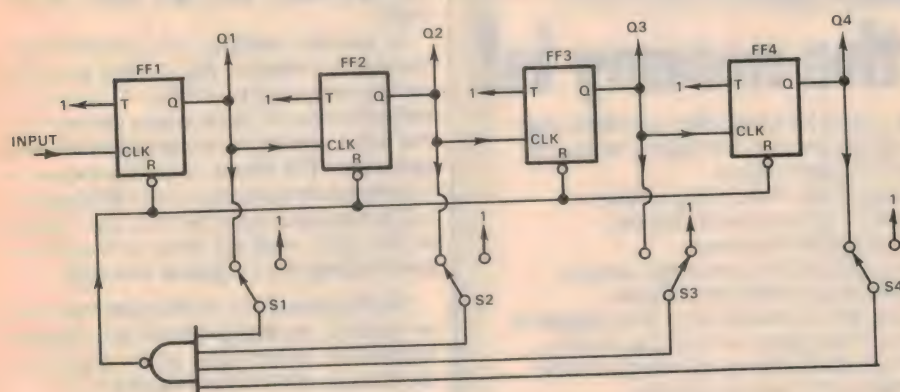

FIG. 4: ADJUSTABLE-MODULO COUNTER (SET FOR MODULO-11)
This approach can be particularly useful where it is desired to be able to "program" a counter to any one of a number of modulo factors. This is illustrated in Fig. 4. As you can see, the output of the 4-input NAND gate connects to the R inputs of the flipflops, and is therefore able to reset the counter whenever all four of its inputs are taken to the true (1) logic level simultaneously. Each of the four gate inputs may be connected to either the output of a FF, or to the 1 level; by setting the switches S1-4 to the appropriate combination the counter may thus be given virtually any modulo between 1 and 15.